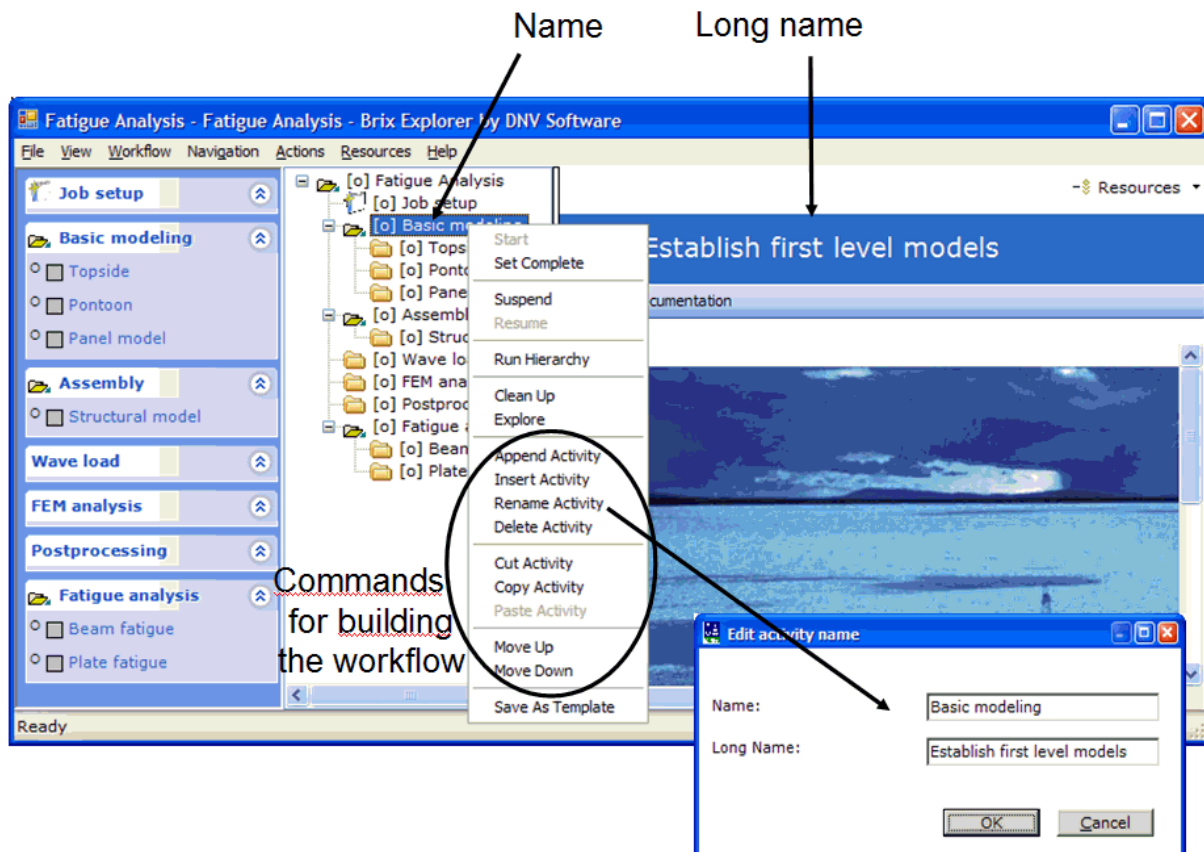

Figure 3.12 The RMB menu for an activity
When you open a Job in the Job Explorer window the list of activities can be modified using the RMB menu for the activities in the Navigation bar or Navigation tree. The RMB menu looks as shown in Figure 3.12. The same menu can be accessed as the Workflow menu in the menu bar. In Figure 3.12 the dialog for Rename Activity is also shown. This menu is identical to the Workflow menu in the menu bar. Do not use the Set Complete option on the root activity unless you do not want to reopen the Job. This command will remove the Job from the list of Ongoing Jobs. Note that most of these commands will be unavailable if you are running an activity.
- **Rename Activity** – Both the Name and the Long Name can be modified (see Figure 3.12). Changing the Name of an activity also renames the activity folder if this exists.